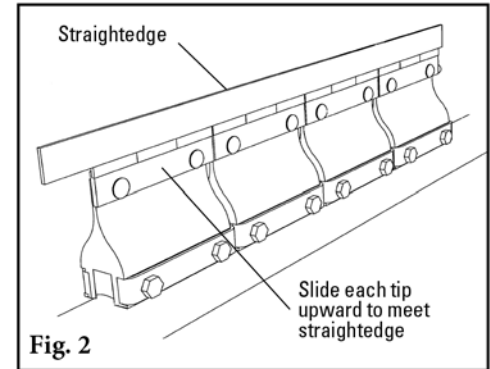

Fig. 2
2. **Install the pole.** Remove the two clamp block bolts from the access side clamp block and remove the outer half of the clamp block. On the opposite side clamp block, just loosen the clamp block bolts to allow the pole to slide freely through (Fig. 2). Slide the pole across the belt, through the loosened clamp block, and locate into the outer clamp block half. Position the outer clamp block half over the pole and reinstall the clamp block bolts. Position the pole so the tips are centered on the belt and snug the clamp block bolts on both sides. Do not fully tighten.
2. **Align the blade tips.** Push tips together so there is no more than a .010" to .015" gap between them. Place a straightedge along the top surface of the new tips. Pull upward on each tip to align with the bottom of the straightedge and tighten the nuts (Fig. 2).